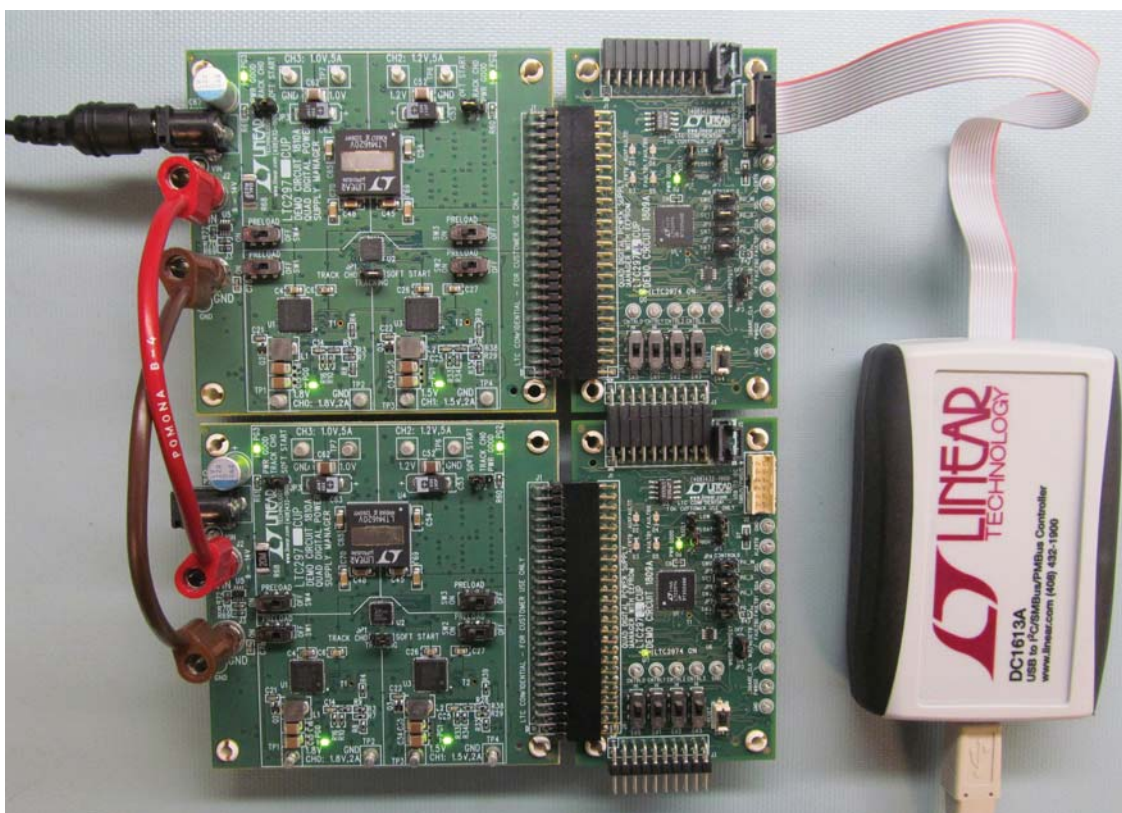

Figure 12. Array of Multiple DC1978A Demo Boards
2. Connect the 12V V_{IN} across the boards using the banana cables as shown in Figure 12 below. Preserve the correct polarity (connect V_{IN} to V_{IN} and GND to GND).